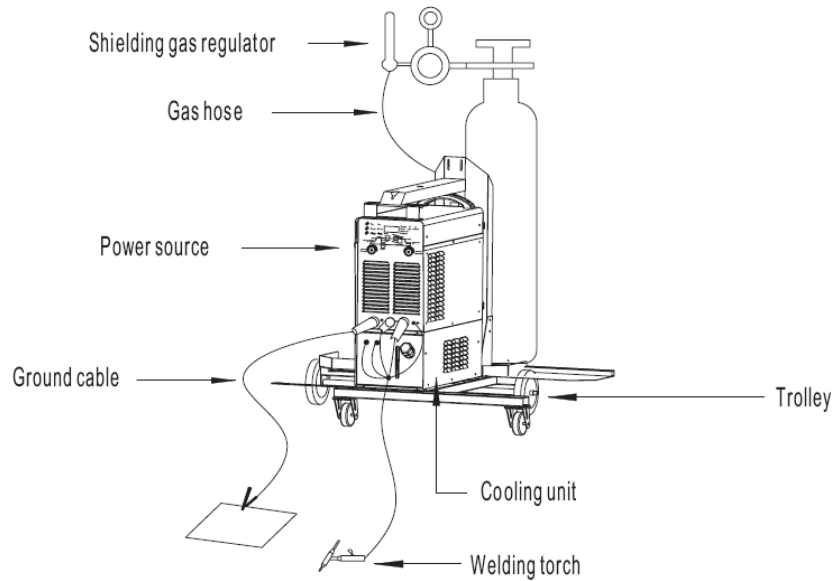

Fig. 4-6-6: Integrated with power source water-cooling unit connection
**For water-cooling unit is integrated with power source, the connection of water-cooling unit is as follows (Fig. 4-6-6):**